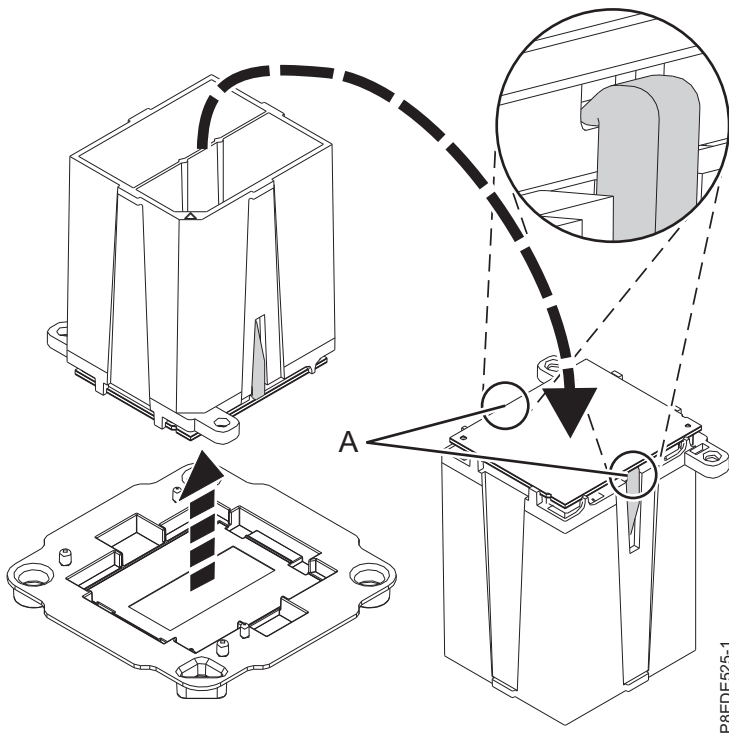

Figure 164. Preparing for system processor module installation
- b. Ensure that both jaws (**A**) are firmly grabbing the system processor module, as shown in Figure 164.